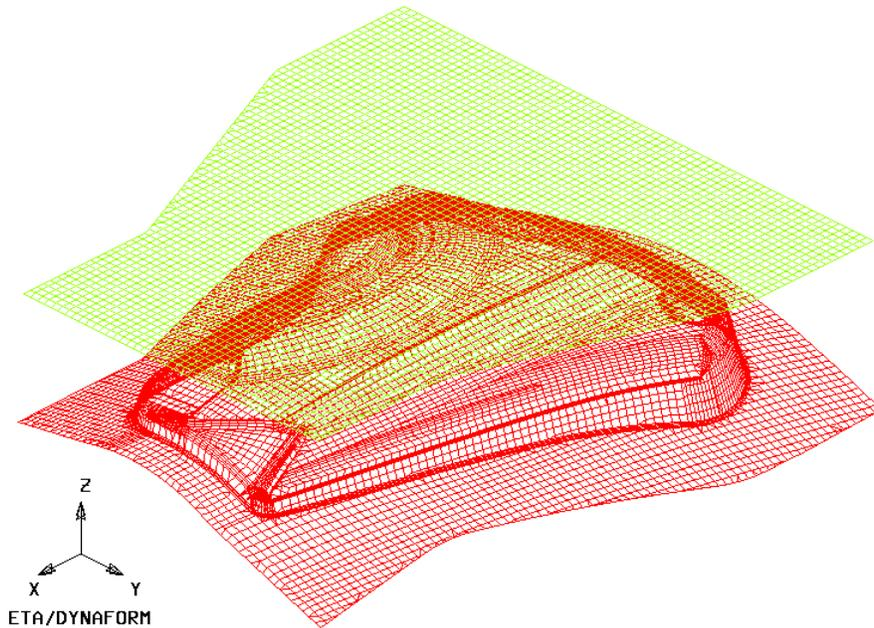

Figure 1.2 Illustration of fender model
2. Go to the training input files located in the CD provided along with the eta/DYNAFORM installation, and open the data file named **single_action.df**. The parts, as illustrated in Figure 1.2, are displayed in isometric view on the display area.